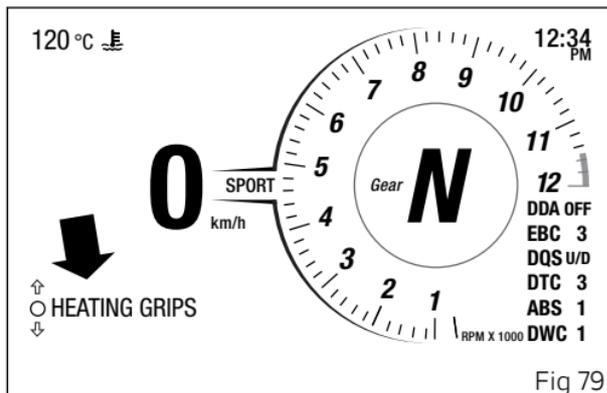

Fig 79
- view HEATING GRIPS (Fig 79) indication via the navigation buttons;